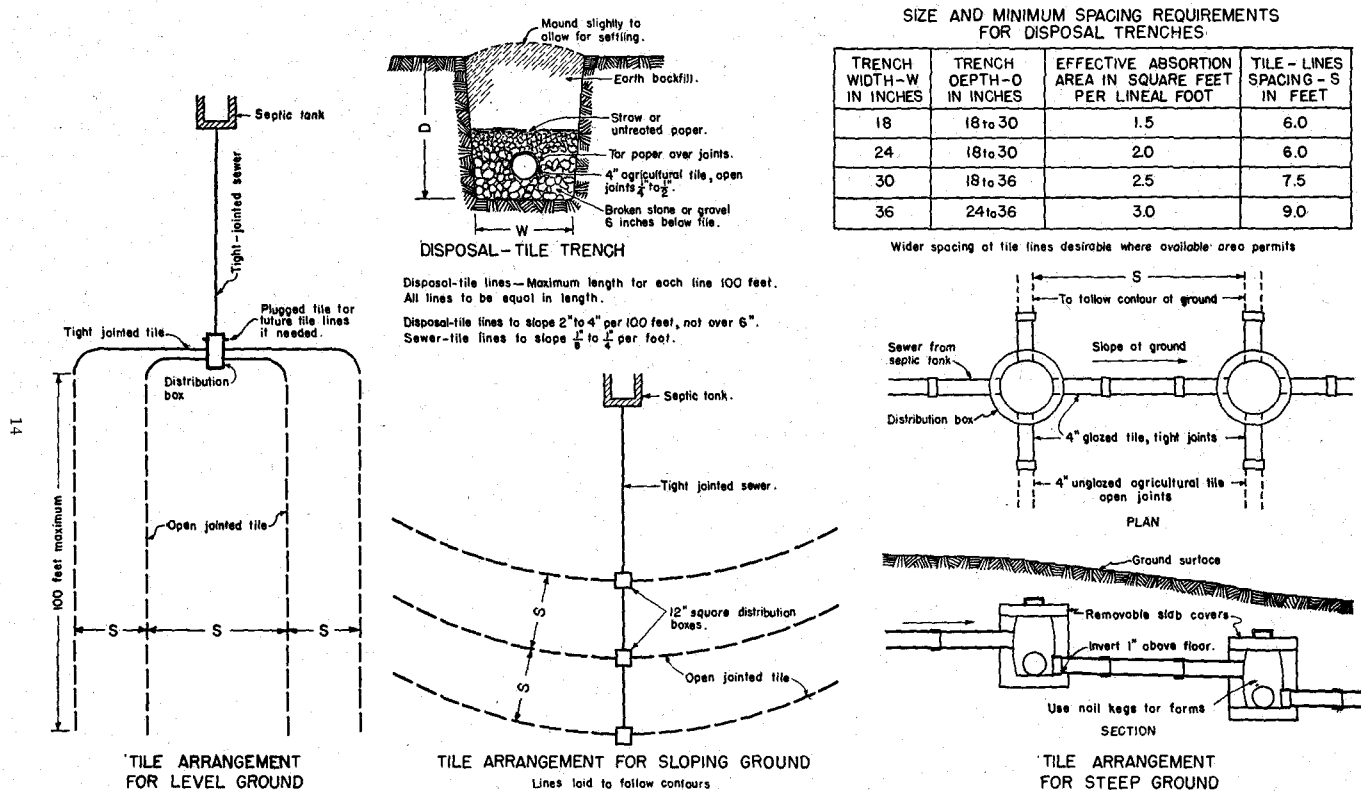

Figure 11. Disposal field arrangements requiring more than 2 disposal lines where distribution boxes are required.
The width and depth of trench and spacing of tile lines must be carefully selected. (Figure 11.) Four-inch, open-jointed agricultural drain tile is ordinarily used. Perforated fiber drain pipes, recently introduced, show a promise of satisfactory service and are available in 4-foot lengths. Bell and spigot pipes either concrete or tile may be used also.
When more than 2 absorption lines are required, the plans in Figure 11, using a distribution box, are used. Each field lateral line should be connected separately to the distribution box and shall not be subdivided. The outlets from the distribution box shall be level and the inlet should be 1 inch above the outlets.
7. Size and spacing of trenches.....See Table, Figure 11